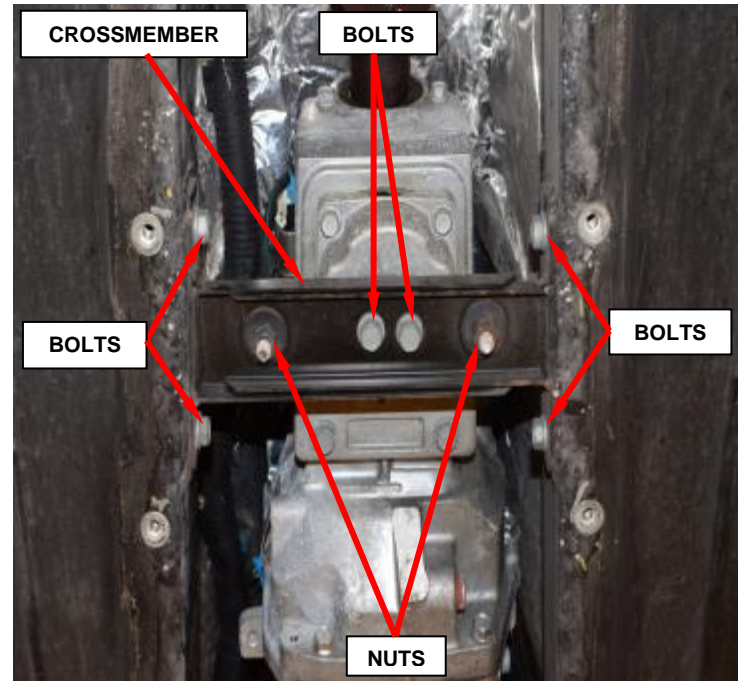

Figure 43 – Transmission Crossmember
- d. Raise the engine/transmission slightly with a support stand. Remove the transmission crossmember and mounting bolts/nuts (Figure 43).
- f. Place the rear crossmember in position under the rear transmission mount (Figure 43).
- g. Loosely install the two bolts to hold the crossmember to the rear transmission mount (Figure 43).
- h. Install the four bolts to hold the crossmember to the frame. Tighten the bolts to 24 ft. lbs. (33 N·m) (Figure 43).
- i. Tighten the crossmember adjustment nuts to 24 ft. lbs. (33 N·m) (Figure 43).
- j. Tighten the crossmember the transmission mount bolts to 29 ft. lbs. (40 N·m) (Figure 43).